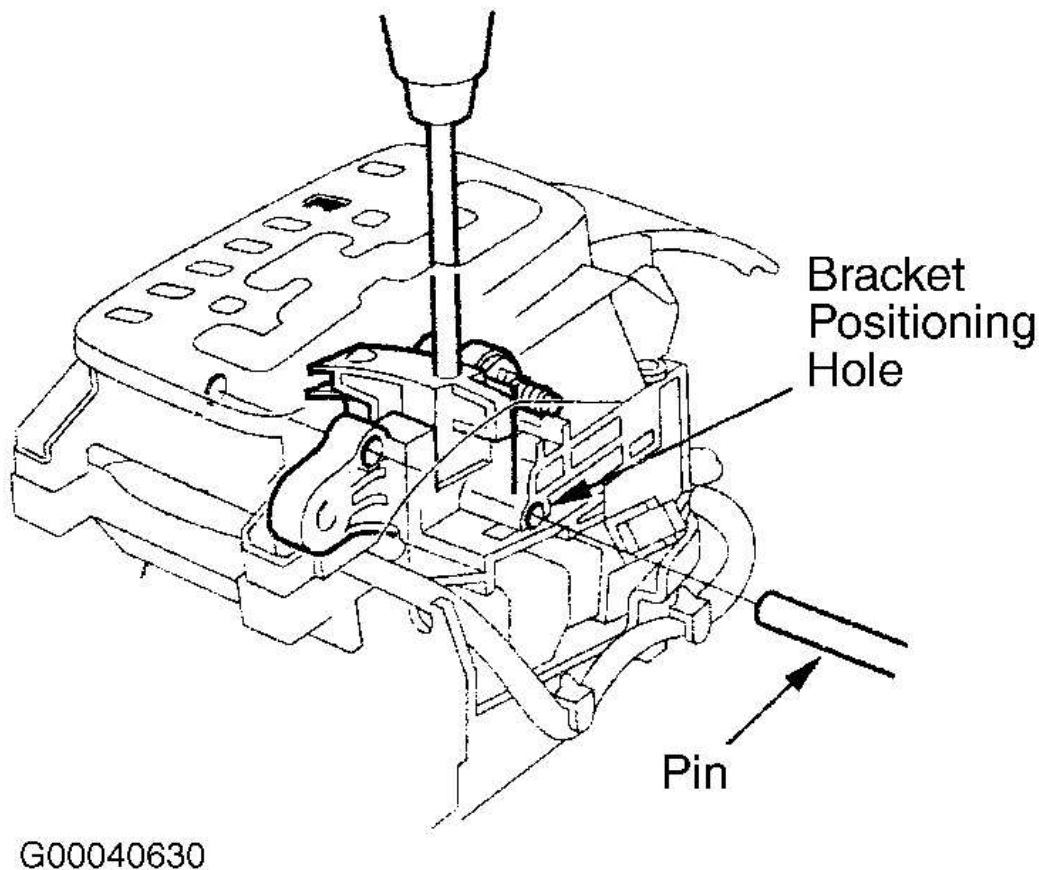

Fig. 6: Indexing Selector Lever Position
3. Insert a .24" (6.0 mm) pin into shift lever bracket base through positioning hole on shift lever assembly. See **Fig. 6**. Position shift cable into shift cable bracket by rotating cable socket counterclockwise 1/4 turn. Insert shift cable socket onto shift lever mounting stud. Install shift cable lock nut, then tighten lock nut to specification. See **TORQUE SPECIFICATIONS**. Remove pin from shift lever. Start engine and check shift lever operation of all gears.
1. Remove center console and place gear shift selector in Neutral. Remove selector lever cable bracket from link adjuster. See **Fig. 4** . Insert a .16" (4.0 mm) pin into shift lever bracket through "N" position shift lever cutout. See **Fig. 6** .